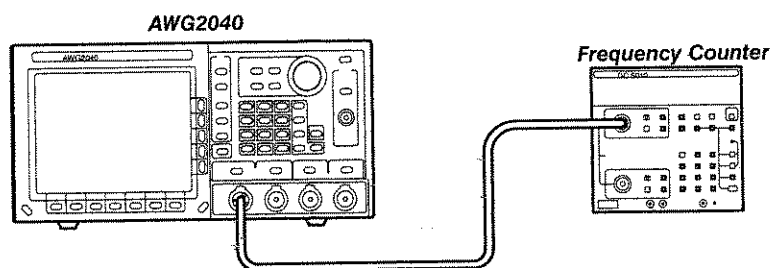

Figure E-12: Clock Frequency Accuracy Initial Test Hookup
- a. *Hook up frequency counter:* Connect the AWG2040 CH1 output connector through a BNC coaxial cable to the input connector on the frequency counter (see Figure E-12).